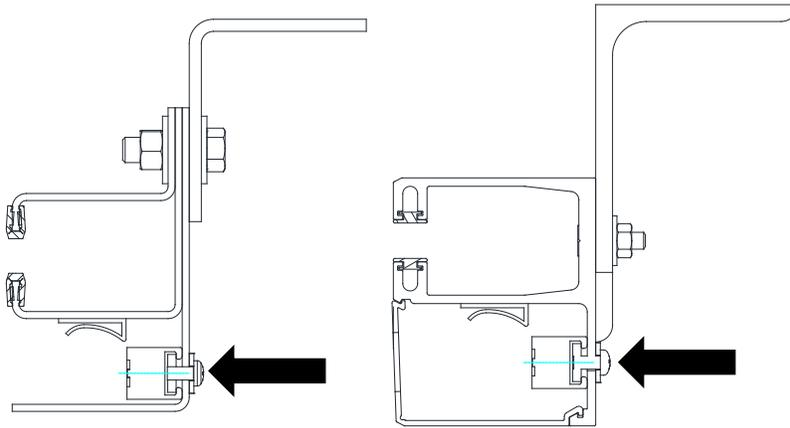

Figure 11
2. There are 2 screws on each guide that secure the light curtain to the guide. Remove the light curtain and transfer it to the new guides. See **Figure 11**